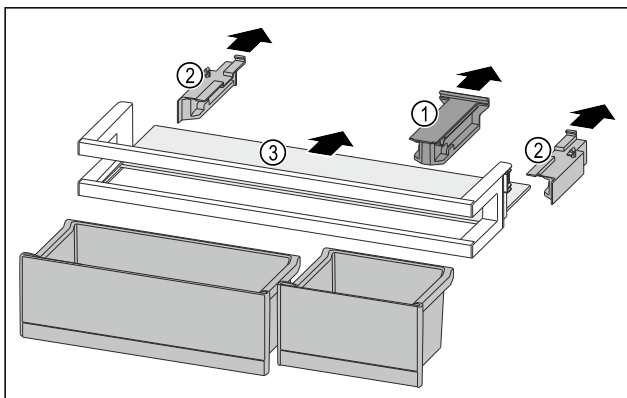

Fig. 133
- ▶ Pull off the retaining part Fig. 133 (1).
- ▶ Pull off the side part Fig. 133 (2).
- ▶ Remove the shelf Fig. 133 (3).